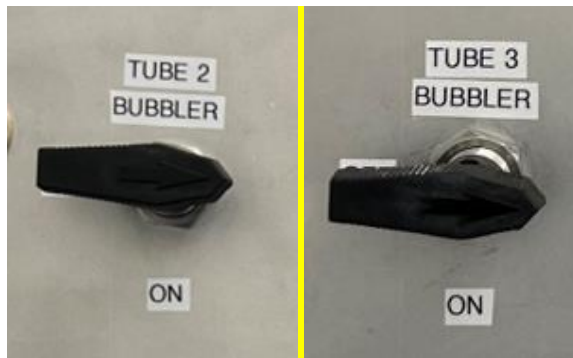

Figure 1: Bubbler Output Valves to Tube 2 and Tube 3
- i. **Make sure the bubbler output valves are both closed (Figure 1).**
- a. Open the bubbler output valve for the tube in use (Figure 1).